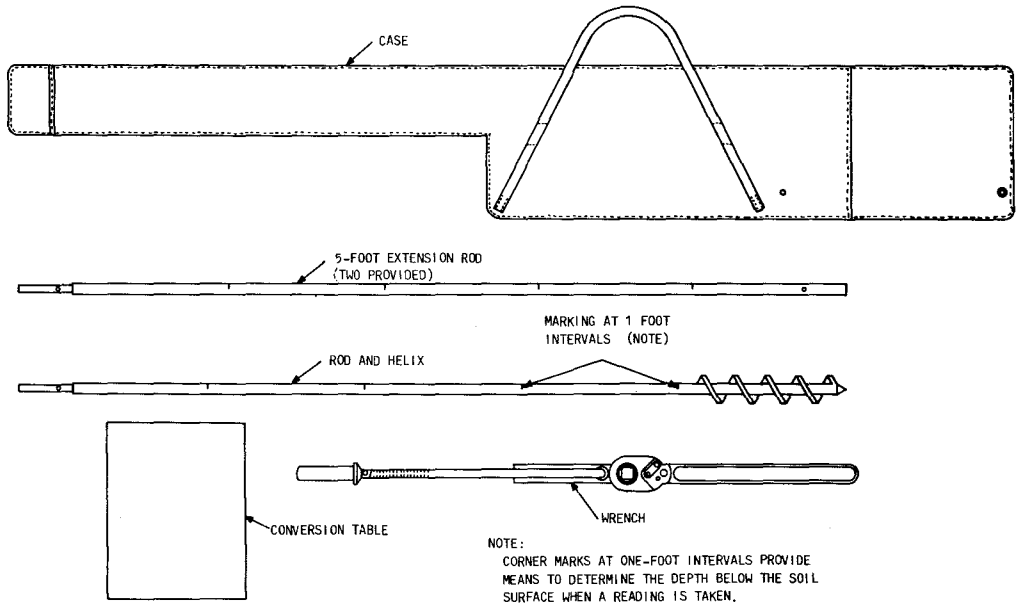

Fig. 3—B Soil Test Probe
2.04 The B soil test probe is used to determine the soil characteristics of the area where the C guy anchors are to be installed. The test probe (Fig. 3) consists of a helical head on a square shaft and a 5-foot extension. A ratchet wrench with a torque-measuring handle is used to install and remove the test probe or to take readings.